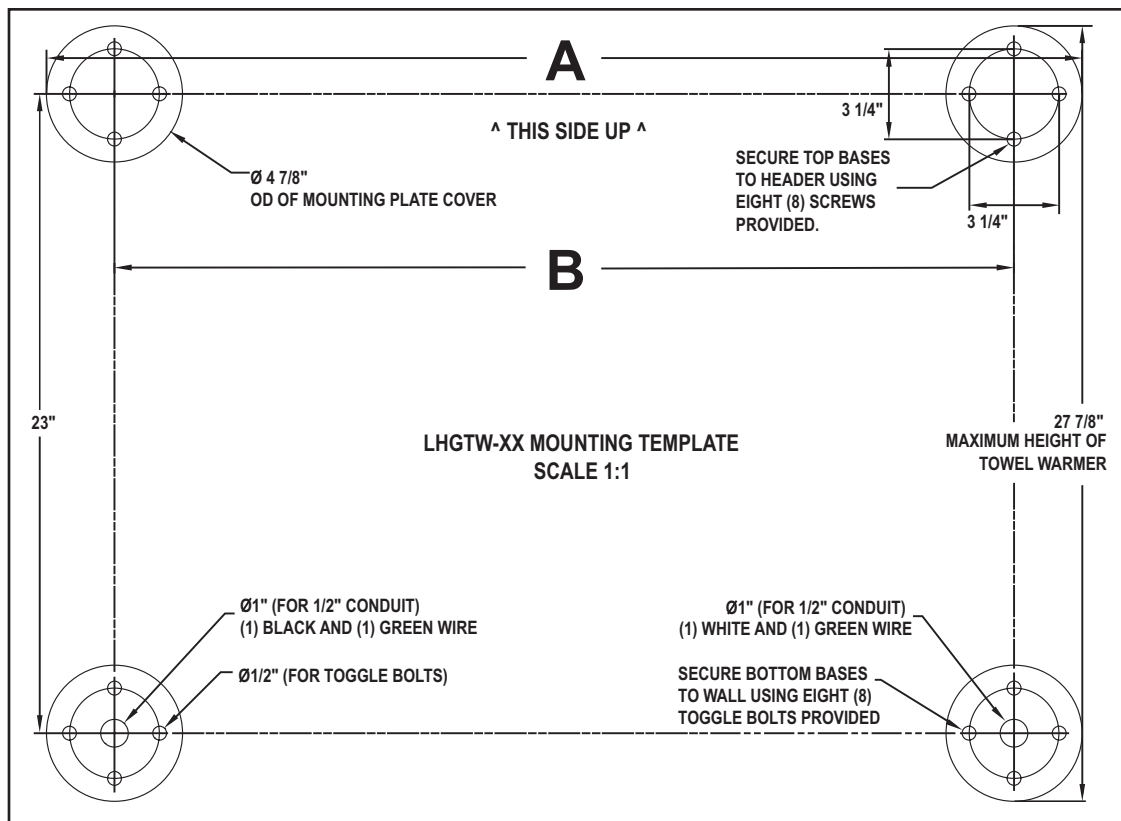
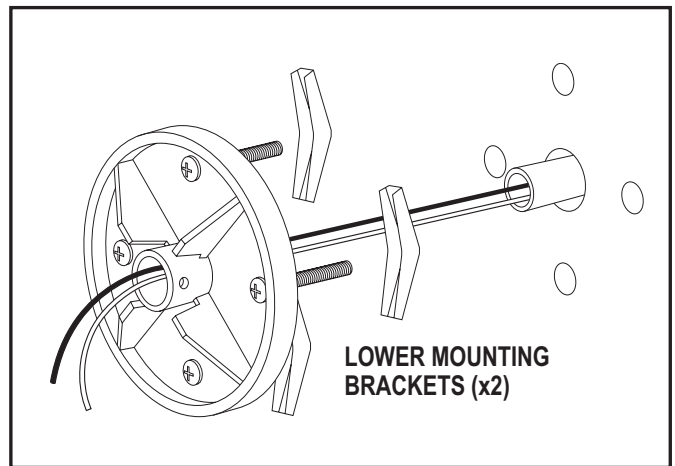
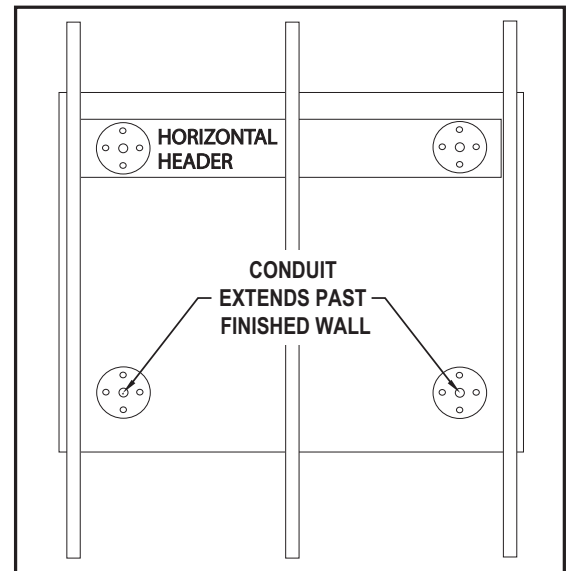

Figure 1
Figure 2
Figure 3
- E. On your chosen wall location and using (Fig 1), mark the locations of the upper and lower Mounting Bracket screw/bolt holes. Attach a horizontal header across the points where the upper Mounting Brackets will be installed. Make sure the locations of the lower Mounting Brackets match up with the wiring.
- G. The Towel Warmer is designed to be installed by directly attaching the two lower Mounting Brackets to standard  $1/2"$  electrical conduit using the small screws on the bracket. The toggle bolts are then used to secure the bracket to the wall (Fig 2). The conduit must be installed so that it aligns with the center holes of the lower Mounting Bracket locations, as indicated on (Fig 1). The conduits should protrude a minimum of  $1"$  and no more than  $1 1/2"$  from the finished wall surface. Make sure the conduit is level and plumb across the centers of the protruding ends.
- A. Using (Fig 1) as your guide, locate and secure the top Mounting Brackets to the horizontal header using the (8) round slotted wood screws provided (Fig 3). The screws should protrude a minimum of 1" into the header. Use suitable replacement screws if the screws provided are not long enough.
- B. Using (Fig 1) as your guide, make sure that each conduit, or cable run, is aligned in the appropriate location for each of the corresponding lower Mounting Bracket locations. Drill 1/2" holes for (8) toggle bolts. Now secure the lower Mounting Brackets to the wall using (8) toggle bolts provided.